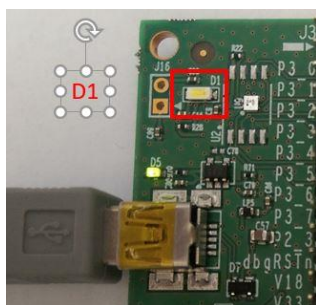

Figure 2: LED D1 on Basic DK DA1468x
- Two levels of alert indications, marked as “Low” and “High” which respectively flash white LED1 either slowly or fast. The position of White LED D1 is shown in Figure 1 for Pro DK and Figure 2 for Basic DK.
For user notification purposes the application shall use the white LED D1 presented in Figure 1 or Figure 2 when either link loss or immediate alerts are triggered. The Alert Notifications are: